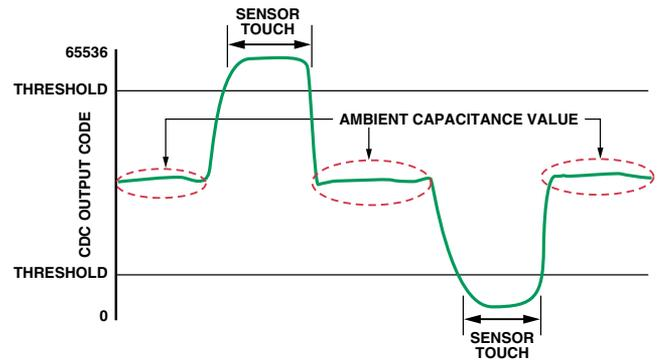
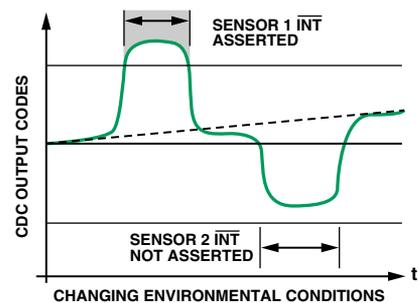

Figure 4. Sensor activation.
Figure 5. Sensor activation with changing ambient capacitance.
**A:** The AD714x measures the capacitance level from the sensor continuously. When the sensor is not active, the capacitance value measured is stored as the *ambient* value. When a user comes close to or touches the capacitance sensor, the measured capacitance decreases or increases. Threshold capacitance levels are stored in on-chip registers. When the measured capacitance value exceeds either upper or lower threshold limits, the sensor is considered to be active—as shown in Figure 4—and an interrupt output is asserted.
Figure 4 shows an ideal situation, where the ambient capacitance value does not change. In reality, the ambient capacitance value changes constantly and unpredictably due to changes in temperature and humidity. If the ambient capacitance value changes sufficiently, it can affect the sensor activation. In Figure 5, the ambient capacitance value increases; Sensor 1 activates correctly, but when the user tries to activate Sensor 2, an error occurs. The ambient value has increased, so the change in capacitance measured from Sensor 2 is not large enough to bring the value below the lower threshold. Sensor 2 cannot now be activated, no matter what the user does, as its capacitance cannot decrease below the lower threshold in these circumstances. A worse possibility is that the ambient capacitance level continues to increase until it is above the upper threshold. In this case, Sensor 1 will become active, even though the user has not activated it, and it will remain active—the sensor will be “stuck” on—until the ambient capacitance falls.